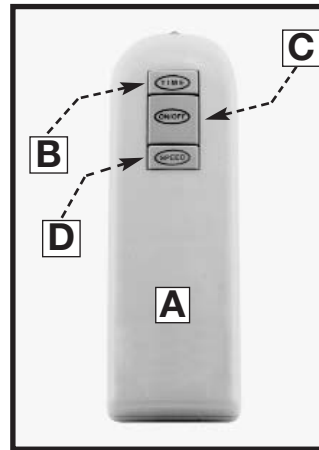
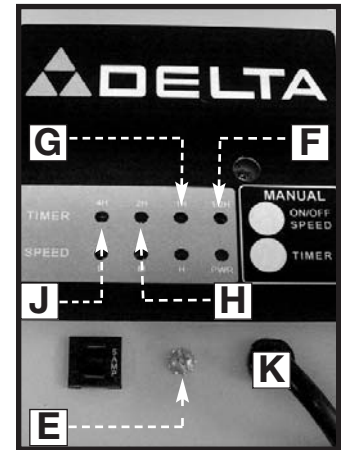

Fig. 8A
Fig. 8B
The Air Cleaner is equipped with a REMOTE CONTROL (A) Fig.8A.
**NOTE:** The remote requires two (2) AAA batteries (not supplied). The Battery housing is located underneath the back cover.
Notice that the remote control has three control buttons (Fig. 8A): TIME (B), ON/OFF (C), and SPEED (D). These buttons correspond to the LED sensor panel on the rear of the machine (K) Fig. 10B.
**NOTE:** When the machine is connected to the power source, a green light (E) will be activated on the panel.
To activate the blower unit, press the “ON/OFF” button (C) Fig. 8A. The machine will begin in the default speed of Low or “L” on the sensor panel. Press the SPEED button once, and the machine will run at the high (or “H” level). Press the SPEED button again, and the machine will run at the medium speed (or “M”). Press the SPEED button a third time, and the machine will return to the Low Speed mode.
To turn the machine off, press the “ON/OFF” button (C) Fig. 8A.
When the “TIME” button (B) Fig. 8A is pressed on the remote control, the machine will run for 1/2 hour. (An LED light will show up on the sensor panel (F) Fig. 8B). Pressing the “TIME” button again will set the machine to run for one hour. Notice that the light on the sensor panel has now moved to the 1H location (G) Fig. 8B. When the “TIME” button is pressed a third time, the machine will run for two hours. At this point, the green light will show up under the two hour location (H). When you press the “TIME” button the fourth time, the unit will run for four hours. Notice that the indicator light (J) glows at the four hour mark.
All of these functions can be manually controlled by using the two buttons on the sensor panel (K) Fig. 8B.